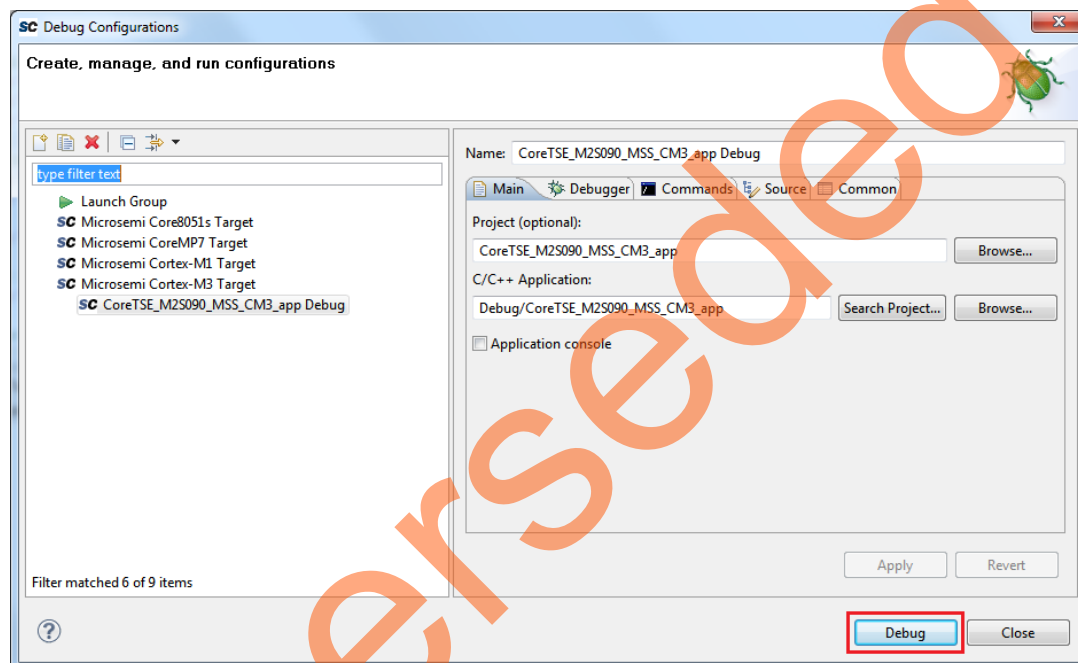

Figure 1 • Debug Configurations
1. Select **Debug Configurations** from the **Run** menu of the SoftConsole. The **Debug Configurations** dialog box is displayed as shown in Figure 1.